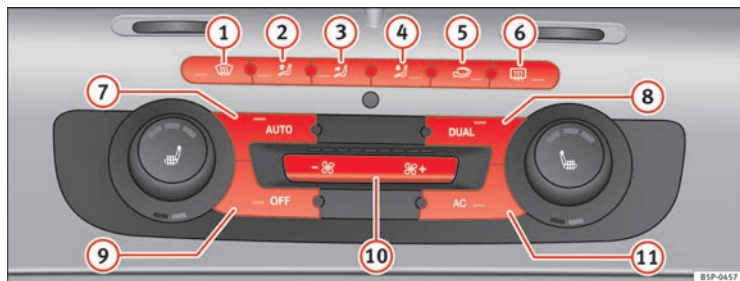

Fig. 133 On the instrument panel: 2C Climatronic controls.
- To enter manual mode, press one of the buttons ⇒ fig. 133 1) to 5) or press the air flow control 10). The selected function is shown on the radio or navigator display.
- Press the button  ⇒ page 164, fig. 133 ② to switch air recirculation mode on or off. It is switched on if the following symbol appears in the display .